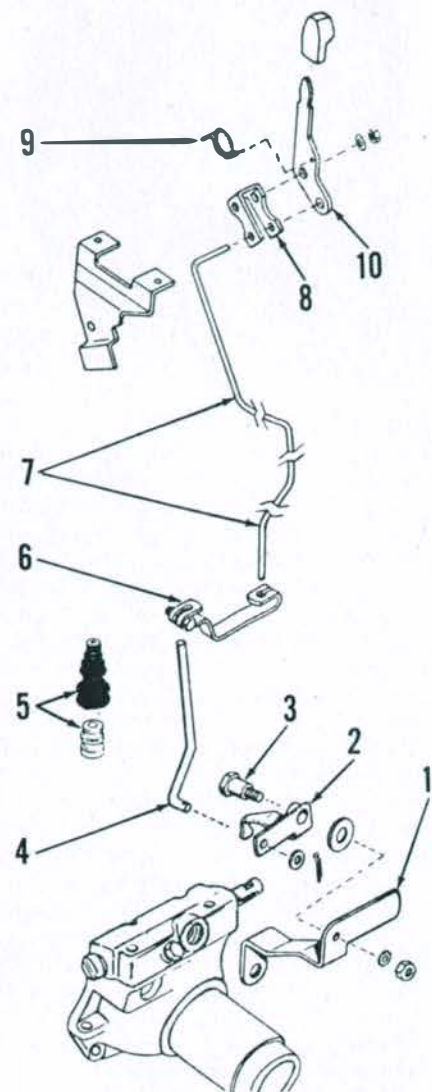

Fig. 144—Exploded view of Multi-Power shift control linkage and associated parts.
146. Multi-Power shift control valve spool must move fully to high and low positions as hand control lever (10—Fig. 144) is moved to top and bottom of slot in instrument panel. To adjust linkage, move hand control lever towards "HIGH" position until front of lever is within 1.6 mm (1/16 inch) from top edge of quadrant slot. Loosen clamp bolt securing link (6) to lower rod (4), then push lower rod downward as far as it will go. Retighten clamping bolt to lock the adjustment.